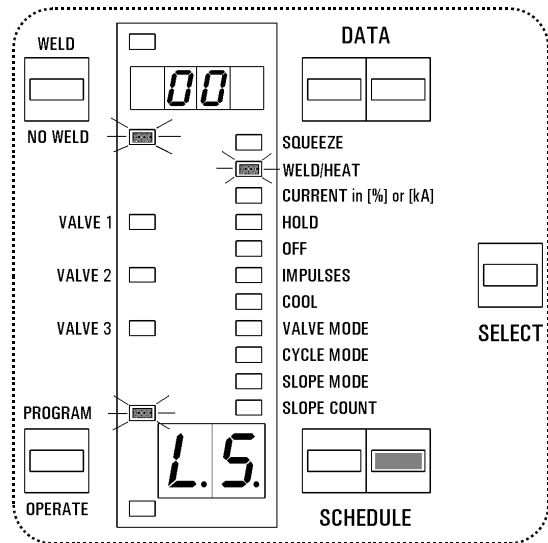

Figure 7.4 Program last step
3. Press the SCHEDULE push buttons to find [L.5.] in the SCHEDULE display, as shown on Figure 7.4.
4. Program the desired last step for this stepper, e.g. for stepper **A** last step in stepper mode 01 may be any number from **00** to **09**, as shown on Figure 7.4, but in stepper mode 02 it may be any schedule number from **00** to **49**. In fact, this value will be first step at beginning of the weld sequence. This value will be reset or reprogrammed after resetting the stepper.